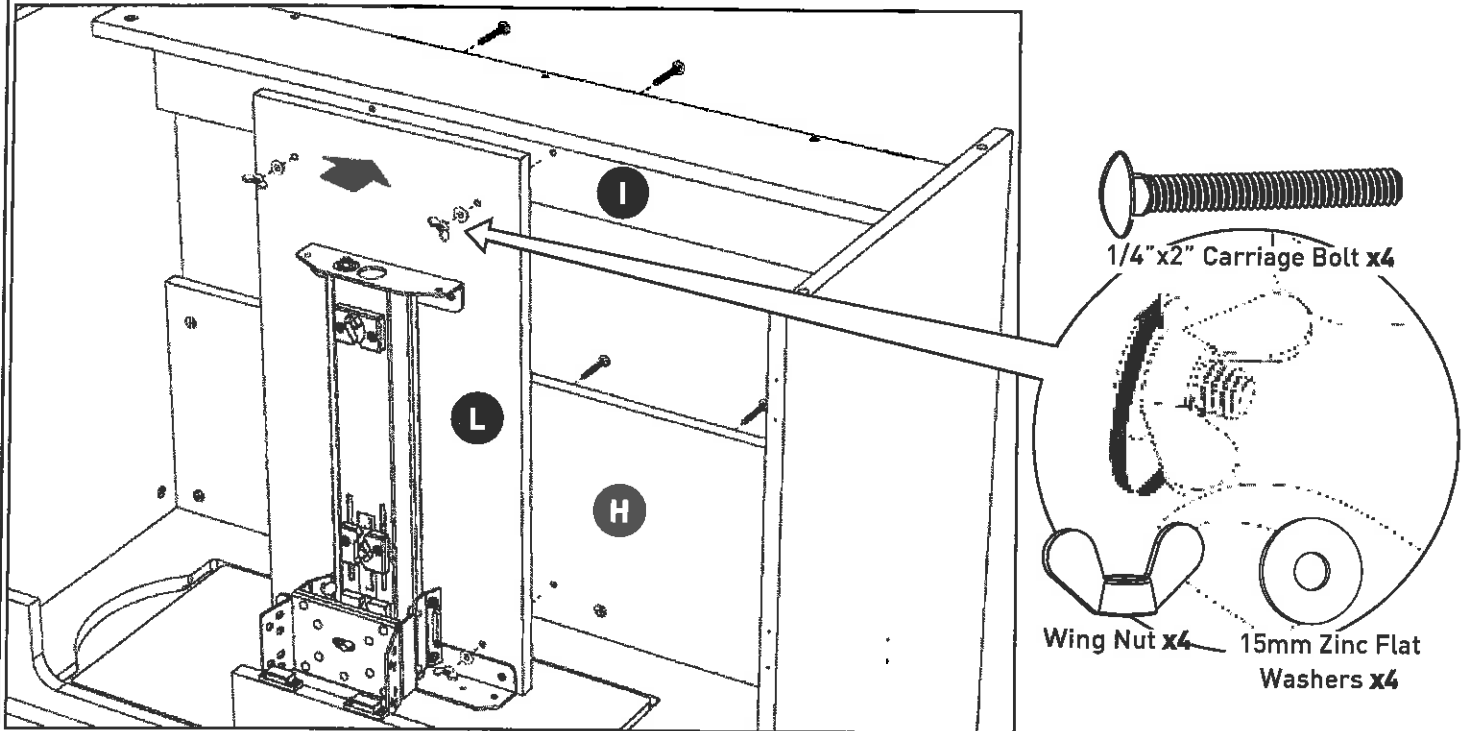

FIG. 12
Step 12. Attach Lift Panel (L) with airlift on upside down as shown in FIG. 12. Using the Carriage Bolts (x4) attach lift panel to the Back (H) and the Back Brace (I), poke Carriage bolts through pre-drilled